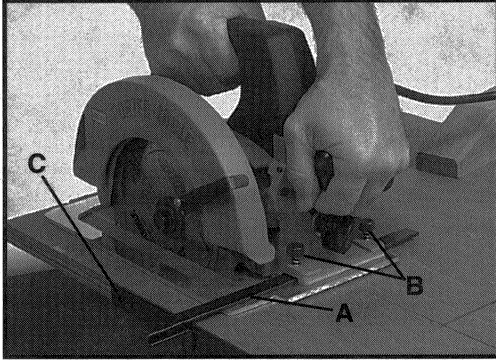

Fig. 9
**CAUTION:** Keep the cord away from the cutting area, so it does not get hung up in the work being cut. See Fig. 9.
Cutting wood lengthwise, with the grain, is known as ripping. For narrow rip cuts, a handy accessory, No. 53124 Rip Guide, can be used. Insert the rip guide bar (A) Fig. 9, under the bridge on the front of the saw base. Thread the rip guide screws with springs (B) into the top of the bridge. Adjust guide for desired width of cut, taking into consideration the blade thickness so the work will not be cut too wide or too narrow.
Firmly tighten screws. The saw is guided by keeping the guide (C) against the edge of the board, as shown in Fig. 9.